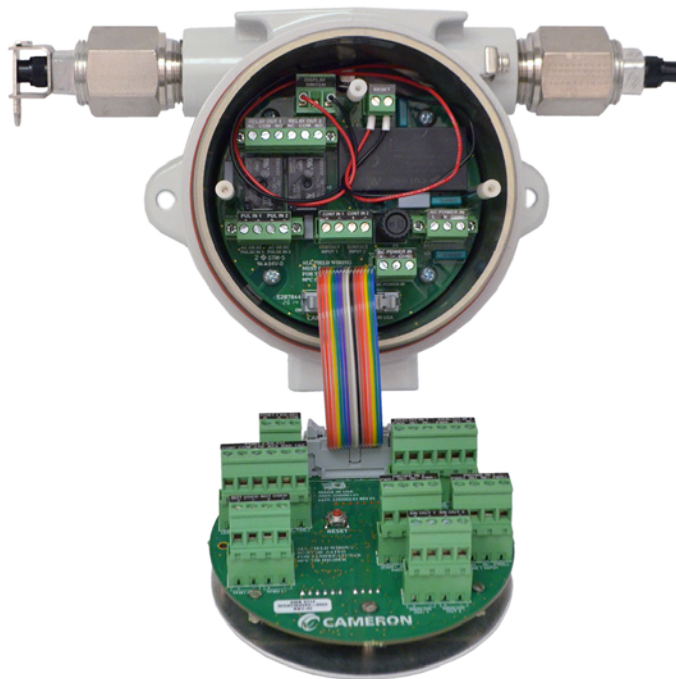

Figure 5.7—Top circuit assembly removed from explosion-proof enclosure
4. To access the circuit board connections, lift out the top circuit assembly and lay it flat with the display facing downward, as shown in Figure 5.7.